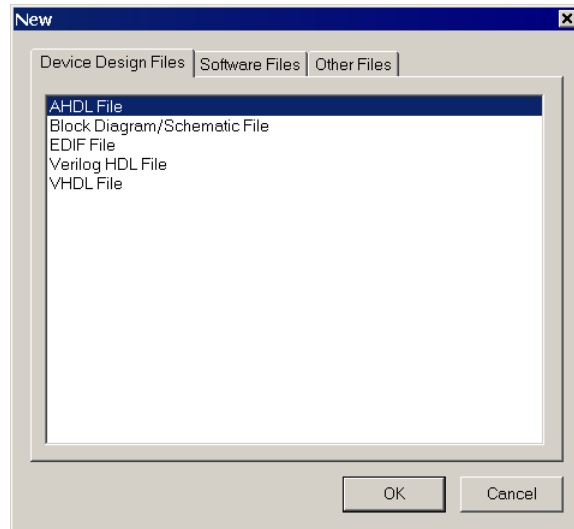
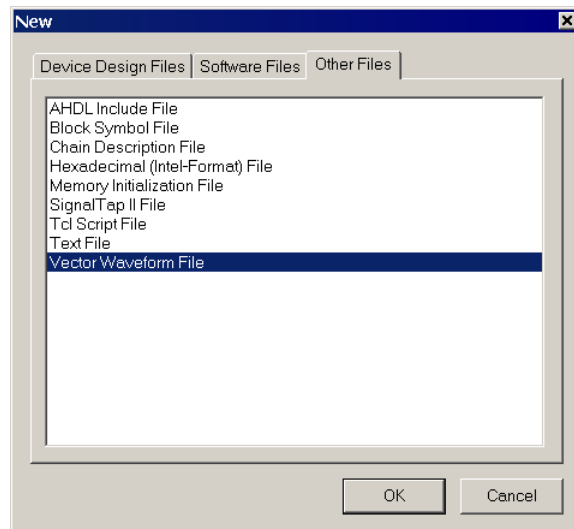

Figure 30. Need to prepare a new file.
Figure 31. Choose to prepare a test-vector file.
1. Open the Waveform Editor window by selecting **File > New**, which gives the window shown in Figure 30. Click on the **Other Files** tab to reach the window displayed in Figure 31. Choose **Vector Waveform File** and click OK.